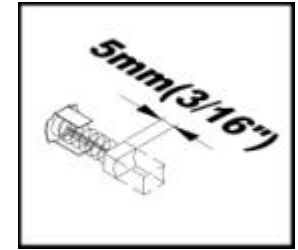

FIG.5
1. Replace carbon brushes when they wear down to about 3/16" (5mm)(FIG. 5) or sparking will occur. Both brushes should be changed at the same time.